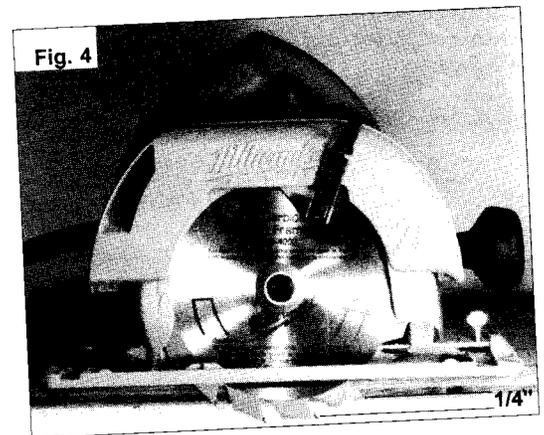

Fig. 4
3. Keeping the shoe flat against the workpiece, raise or lower the saw to the desired position. For the proper depth setting, the blade should extend no more than 1/4" below the material being cut (Fig. 4).